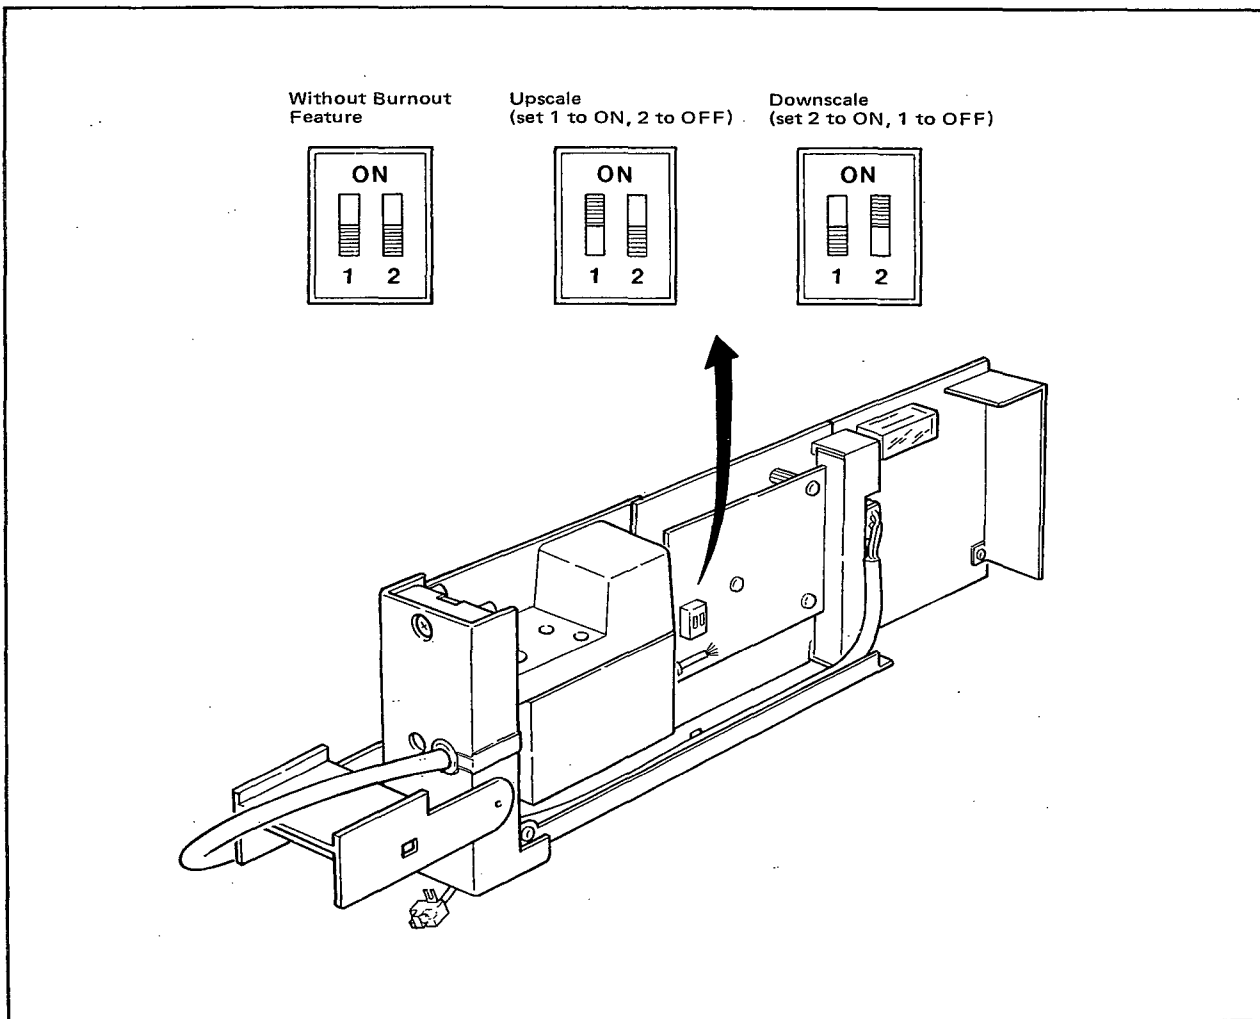

Figure 5-2. Setting the Burnout Selector Switches.
- (1) Disconnect the power cord plug from the receptacle and loosen the internal unit lock screw at the front of the instrument. Loosen the RJC setscrews to remove the internal unit (thermocouple input type except type B), and check that a correct rating fuse is installed in the fuseholder on the rear of the internal unit.
- (2) Check that the burnout selector switches on the range card in the internal unit are set to the desired position. If they are set to the wrong position, correct the position (see Figure 5-2). 1 to 5 V DC input version converters do not provide burnout protections.
- (3) When inserting the internal unit in the rack case, loosen the internal unit lock screw at the front of the instrument so the wiring and piping can be connected securely.
- (4) Check that the two-pole plug with earthing contact is properly connected to the receptacle.
- (5) Check that the external wires are connected to the input terminals properly. For the thermocouple input version except type B, install the reference junction block to the bottom front of the instrument.
- (6) Check that the external piping is connected securely and properly.